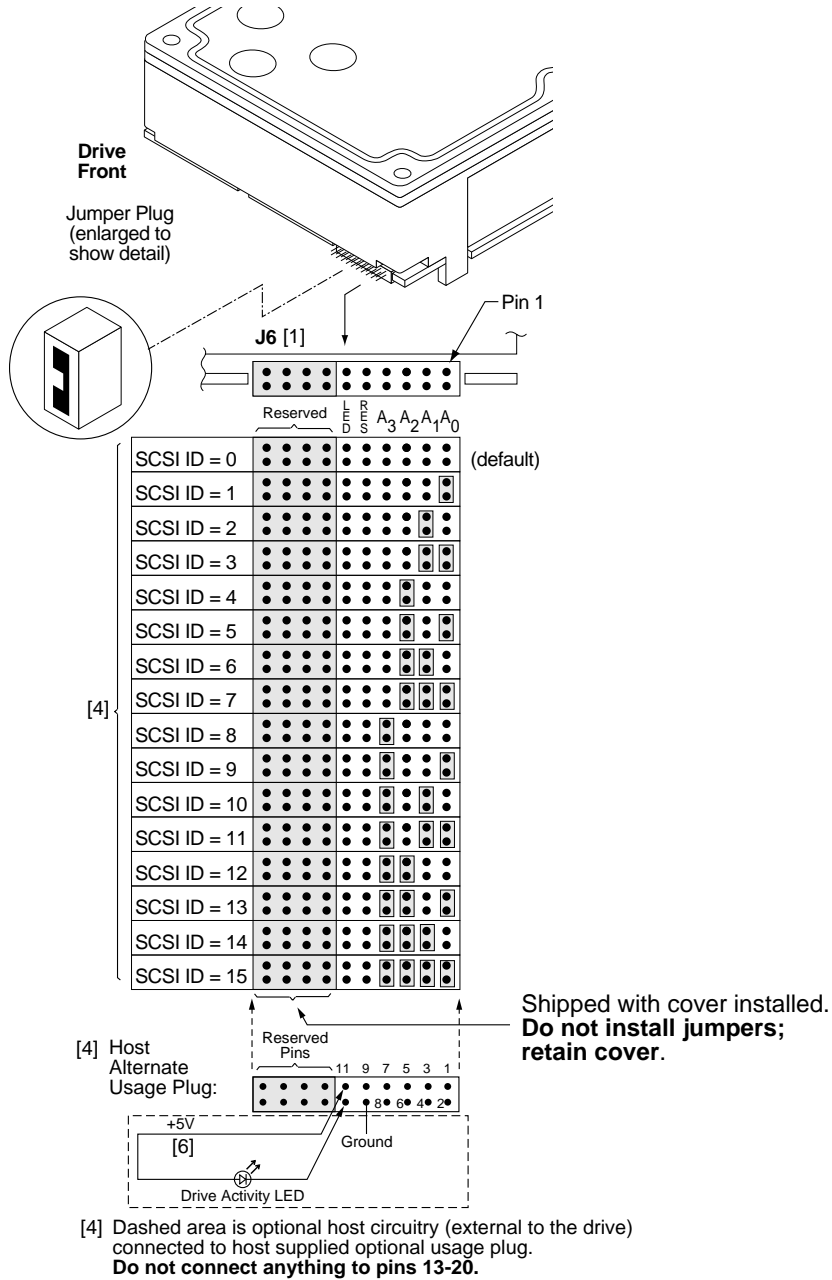
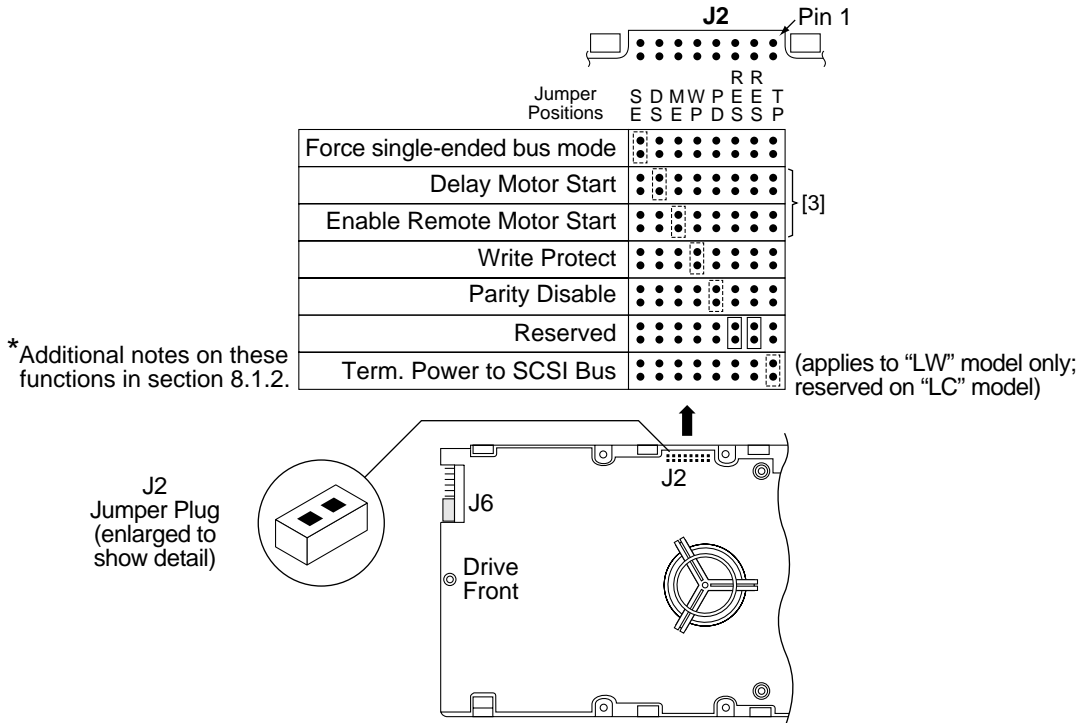

Figure 12. J6 jumper header
Figure 14. J2 option select header
For option jumper locations and definitions refer to Figures 12, 13, and 14. Drive default mode parameters are not normally needed for installation. Refer to Section 9.3.2 for default mode parameters if they are needed.
Figures 12 and 13 show views of the drive ID select jumper connectors. Figure 14 shows the option select jumper connector for all models. Figure 12 shows the drive's J5-auxiliary jumper connector. Both J5-auxiliary and J6 have pins for selecting drive ID and for connecting the remote LED cable. Only one or the other should be used, although using both at the same time would not damage the drive. The notes following the figures describe the functions of the various jumper positions on the connectors J2, J5-Auxiliary and J6. Suggested part number for the jumpers used on J2 is Molex 52747-0211 (Seagate part number 77679052). A bag with the two jumper plug types is shipped with the standard OEM drives.
8.1.1 Notes for Figures 12, 13, and 14.